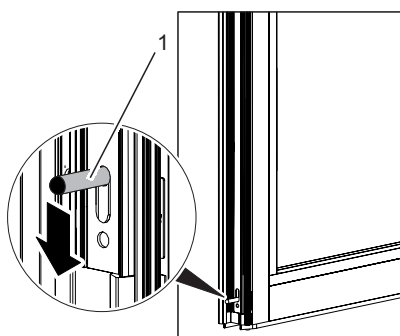

Fig. 8: Operating the end-mounted slide bolt
1. Push the end-mounted slide bolt (Fig. 8/1) down using the tip of your foot or the hand.